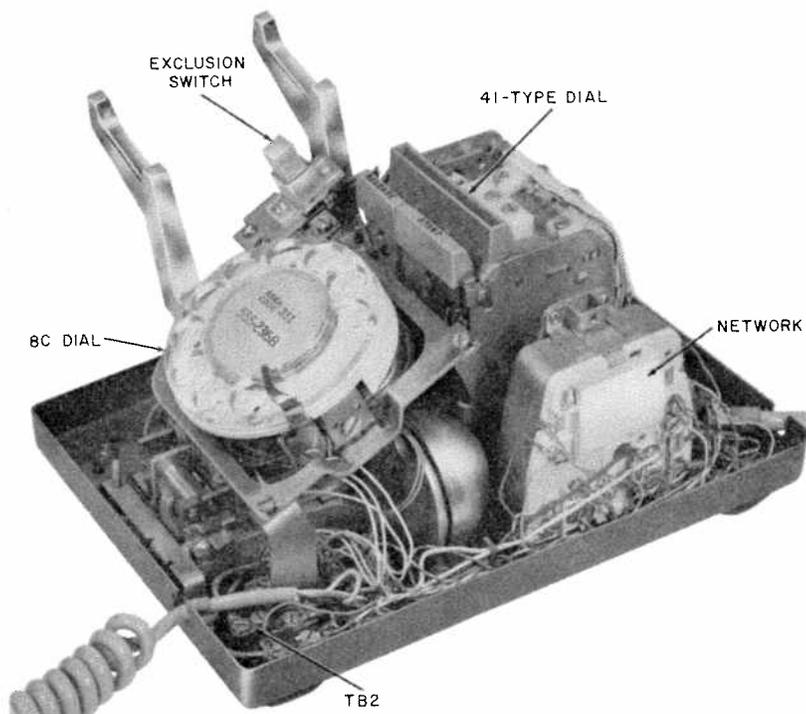

Fig. 3—660-Type Telephone Set, Housing Removed
2.02 The 660- and 663-type telephone sets are equipped with both an 8C and a 41-type dial (Fig. 3 and 4). The 41-type dial is an electromechanical dial driven by an ac synchronous motor. Refer to Section 501-163-101 for detailed description and power supply selection for the 41-type dial.